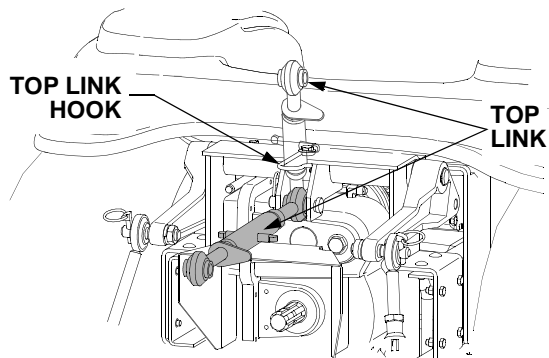

Figure 20
- Pivot the link hook from its storage position to the center and lower the top link into the hook of the rod. See Figure 20.